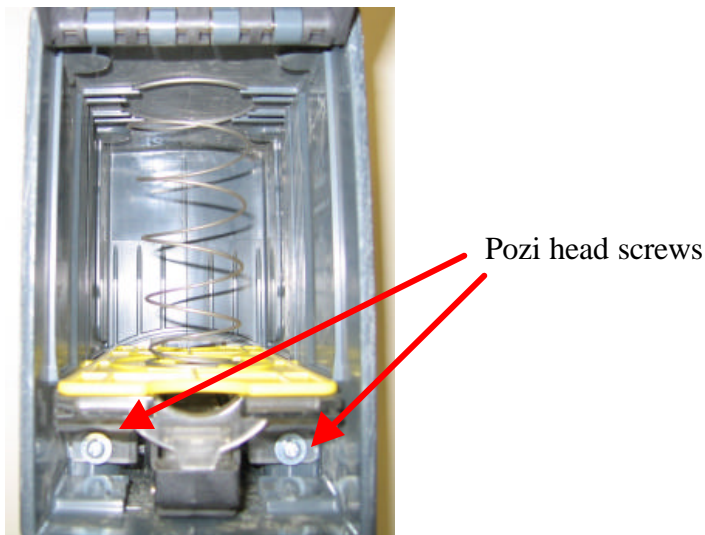

Fig.1
- Remove the Two Pozi head screws that hold the stacker assembly in place. *(See fig. 1)*
CAUTION: Before reinstalling the two screws that secure the stacker assembly inside the cashbox, (see fig.1) it is recommended to back the screws counter clockwise a quarter turn so that the screws will find their original thread pattern so that no stripping of the plastic occurs.